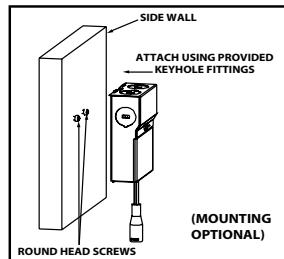

Figure 4
- **MUST** follow local electric code for rigid attachment and placement of the remote driver box. (Figure 4)